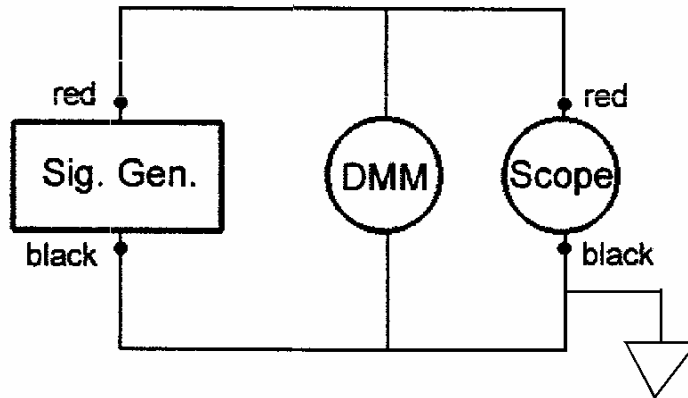

Fig. 2
1. Replace the battery with the signal generator as in the circuit of Fig. 2. Set the signal generator for a 1000Hz sine wave about  $1V_{\text{rms}}$  on the DMM (AC)
4. RMS: Set the sig. gen. DC offset accurately to zero, watching the DMM (DC). Change the DMM to AC, then determine the peak-to-peak voltage from your scope trace and compare with the reading from the DMM.
- 1) Continue with the circuit shown in fig. 2. Adjust the SEC/DIV control to display one complete period of the measured waveform, making sure that the variable SEC/DIV control is in CAL detent.